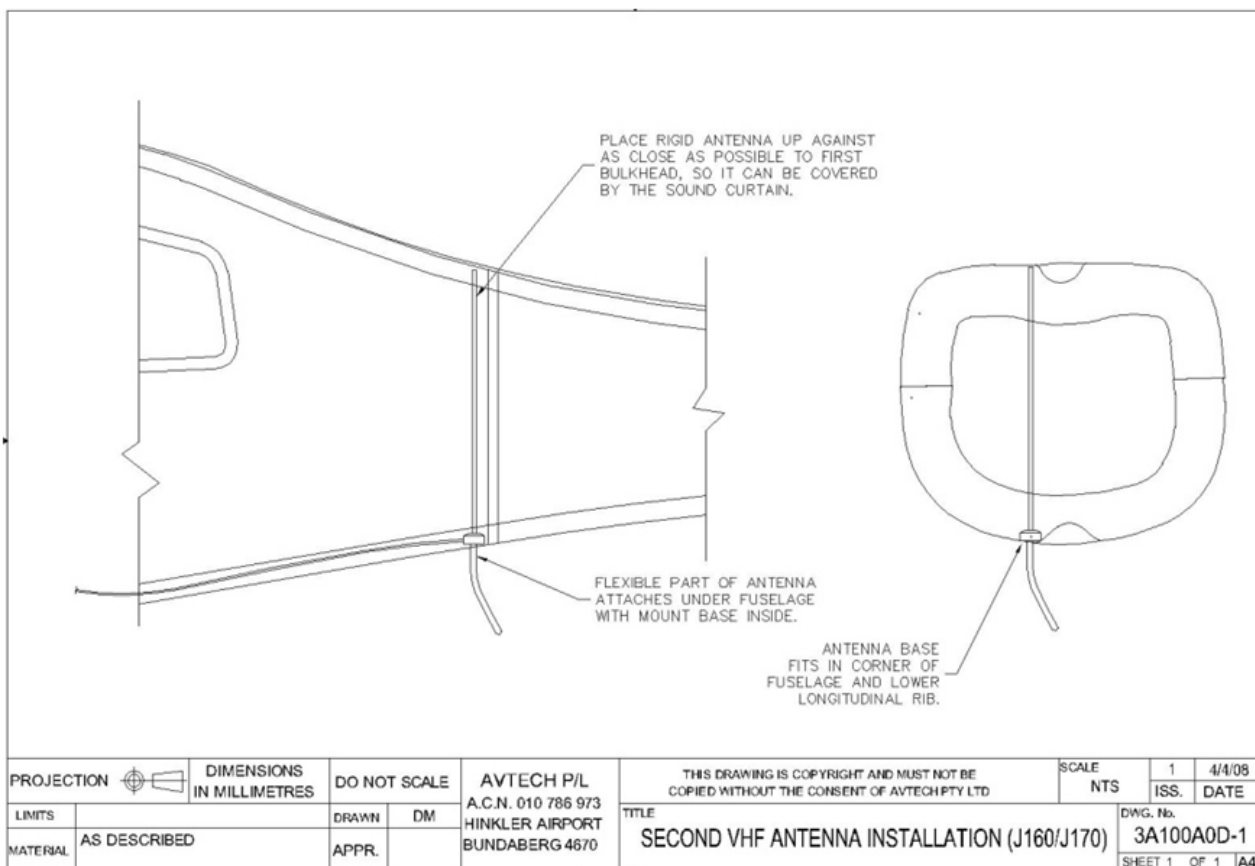
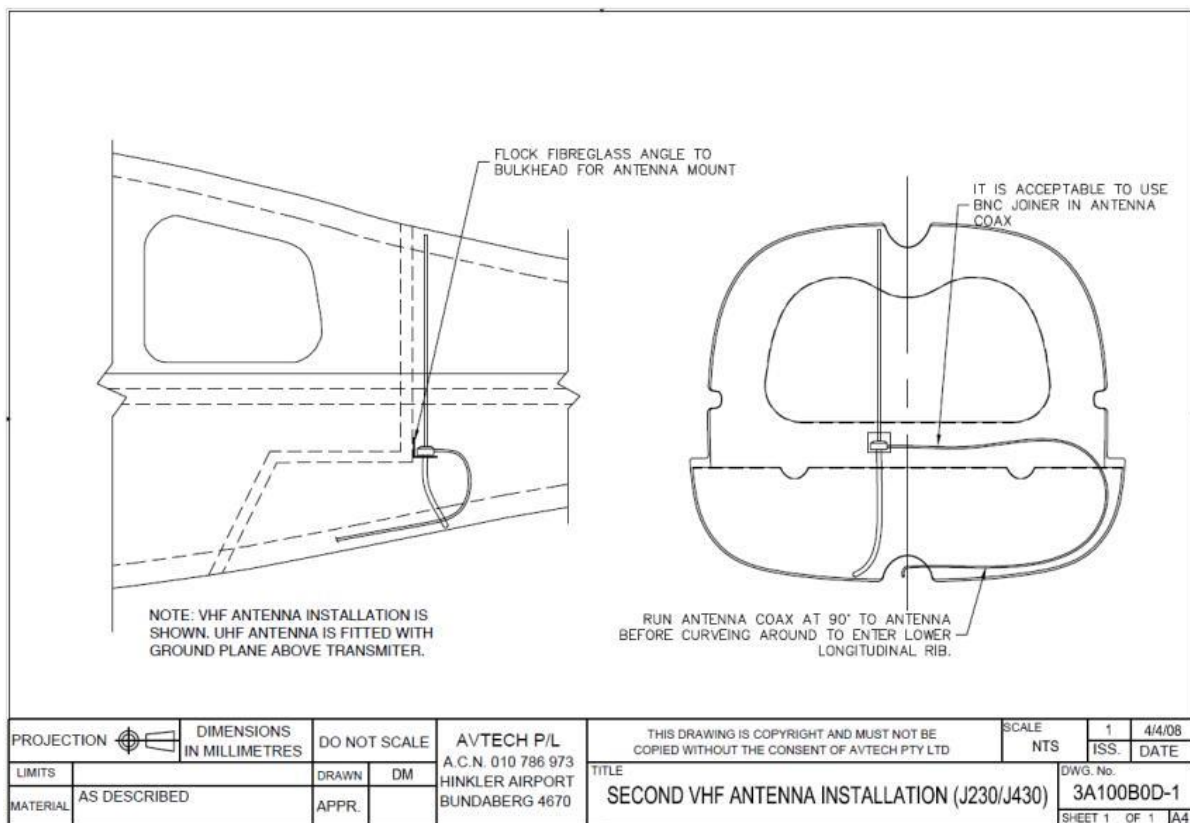

Figure 205 – Second VHF Antenna Installation (J120, J160, J170)
Figure 206 – Second VHF Antenna Installation (J200/J400, J230/J430, J250/J450)
- Where equipped, second VHF antennas are fitted at the rear of the cabin – refer to Figure 205 and Figure 206